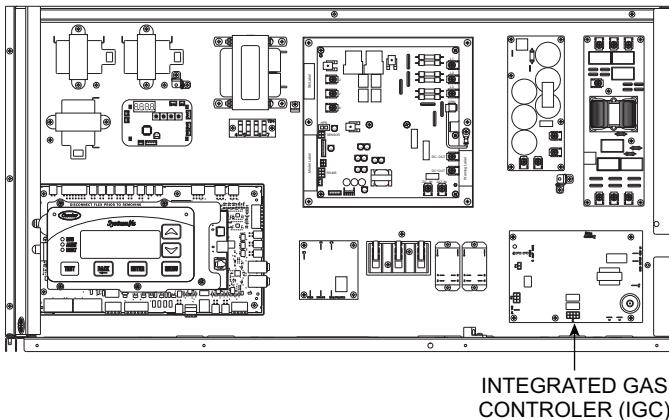
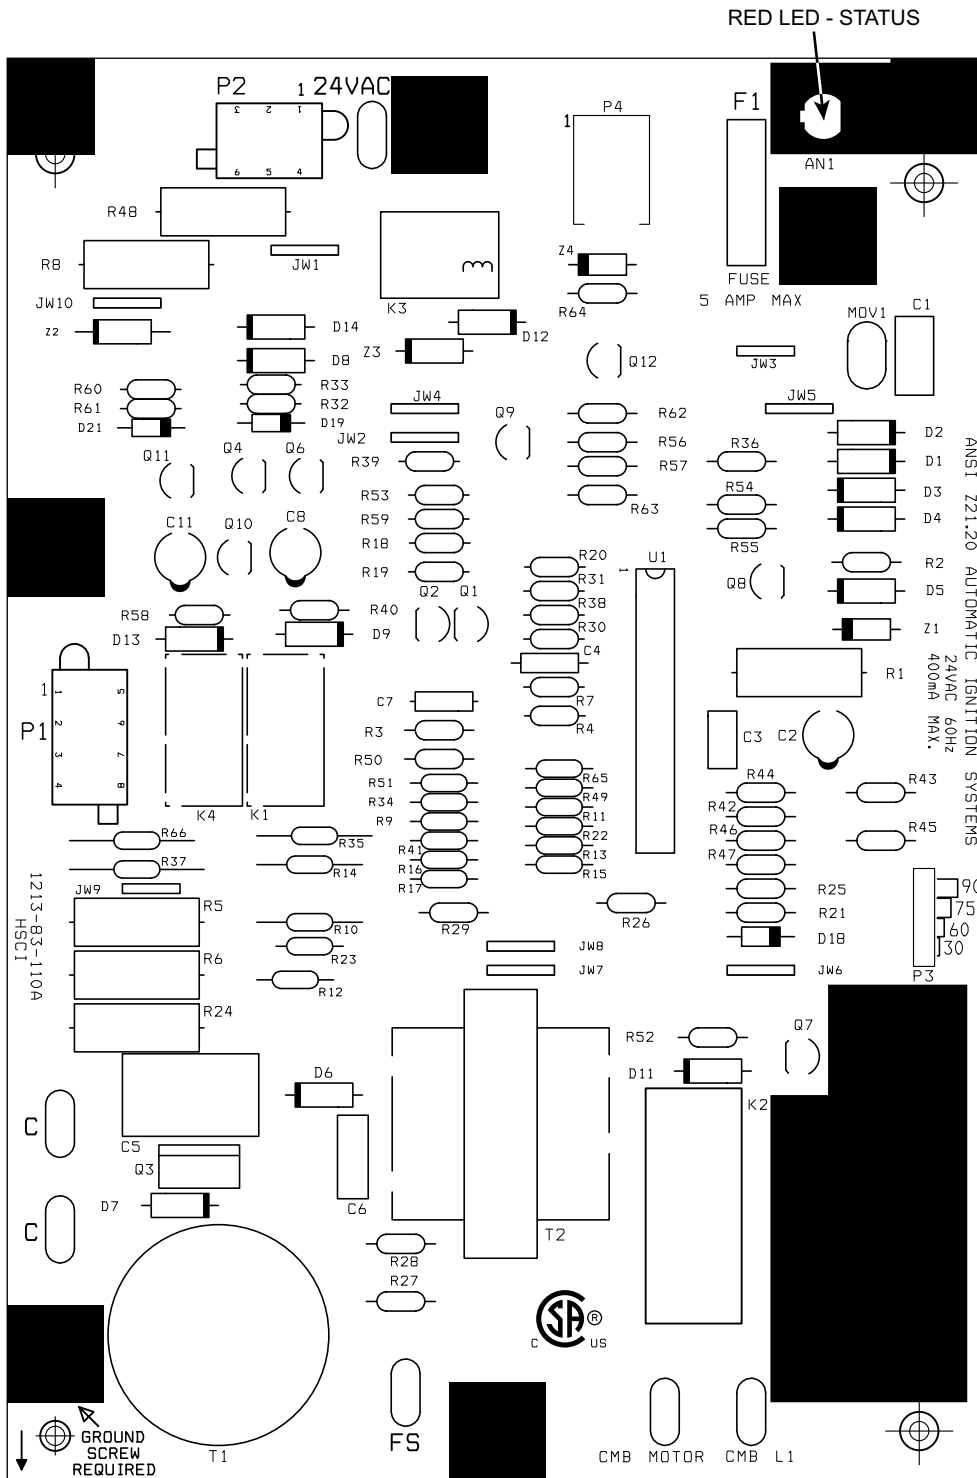

Fig. 49 — Unit Control Box/IGC Location
Fig. 52 — Integrated Gas Controller (IGC) Board
8. Remove igniter wires and sensor wires at the Integrated Gas Unit Controller (IGC). (See Fig. 49.)
control box (see Fig. 49). The IGC contains a self-diagnostic LED (light-emitting diode). A single LED (see Fig. 52) on the IGC provides a visual display of operational or sequential problems when the power supply is uninterrupted. When a break in power occurs, the IGC will be reset (resulting in a loss of fault history) and the indoor (evaporator) fan ON/OFF times will be reset. The LED error code can be observed through the viewport. During servicing, refer to the label on the control box cover or Table 9 for an explanation of LED error code descriptions.